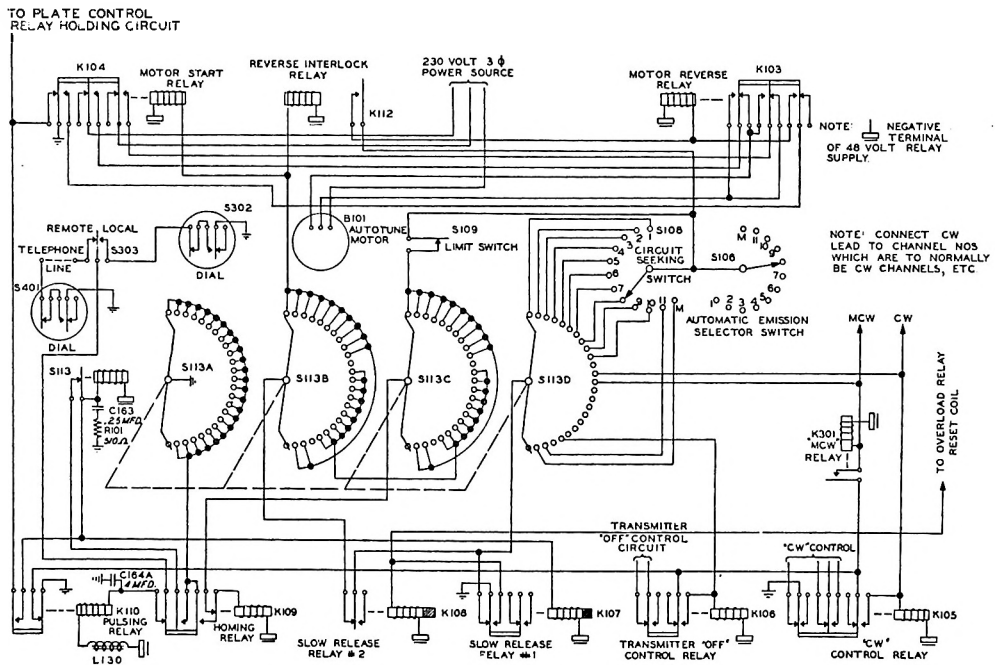
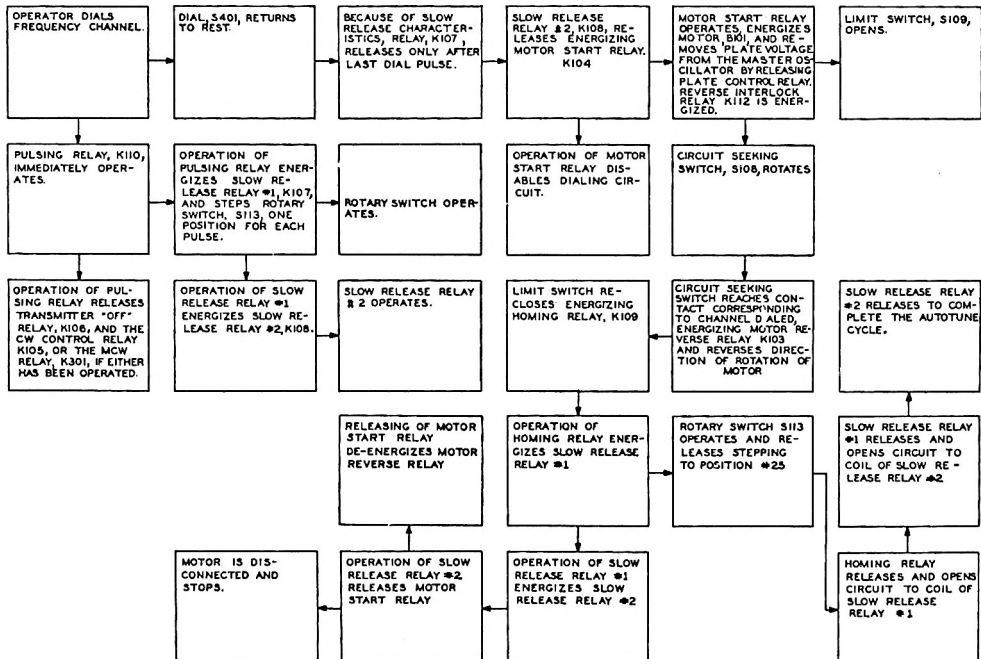

Figure 7. Collins Autotune System - Electrical Details
Figure 8. Autotune Operation Sequence
**2.6.3. Sequence of Operation.** Refer to figure 7 and figure 8. The Autotune system is controlled by a number of interlocking relays. The sequence of operation of these relays must be preserved in order